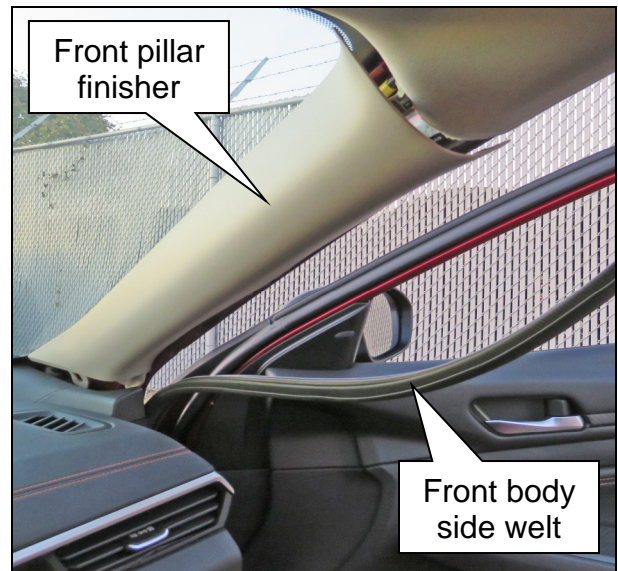

Figure 5
4. Allow the finishers to hang by the tethers (Figure 5 shows the passenger side, the driver side is a mirror image).